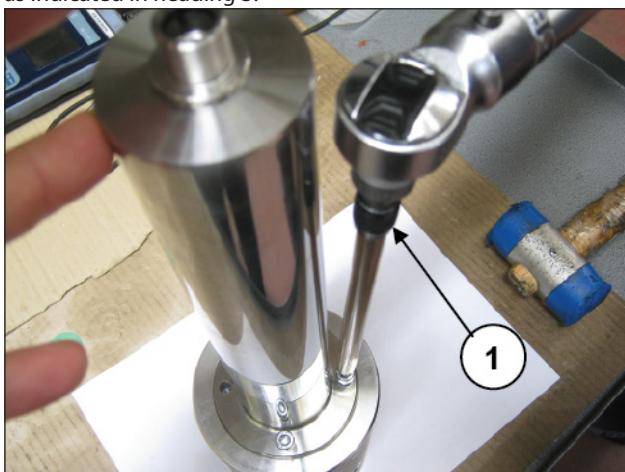

Fig. 73
Lock the piston guide in a vice with the aid of a special tool and calibrate the screws with a torque wrench (pos. ①, Fig. 73) as indicated in heading 3.